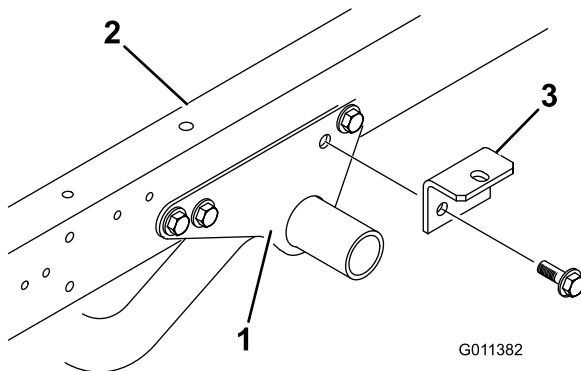

Figure 5
1. Remove (2) flange head capscrews and flange locknuts securing rear of each engine frame mounting bracket to each side of vehicle frame (Figure 5).
2. Loosely secure a attachment bracket to each engine frame mounting bracket and vehicle frame with (2) flange head capscrews and flange locknuts previously removed (Figure 5).